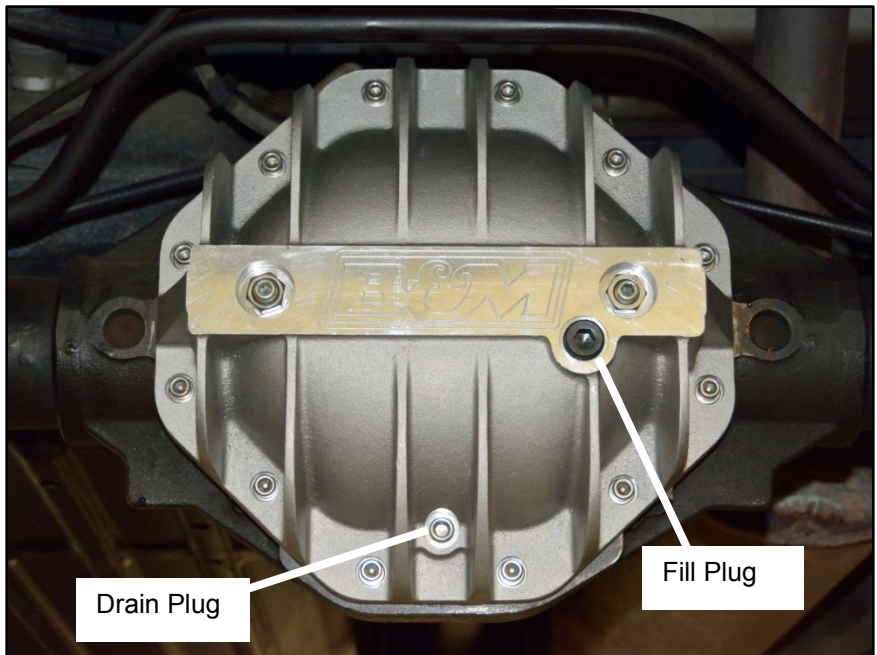

Figure 5
**STEP 16.** Install the supplied magnetic 1/4" NPTF drain plug on the **B&M Cast Aluminum Rear End Cover** and tighten (See Figure 5).
**Cover fill plug hole (See Figure 5).** Add gear oil until oil runs out of the **B&M Cast Aluminum Rear End Cover** fill plug hole.